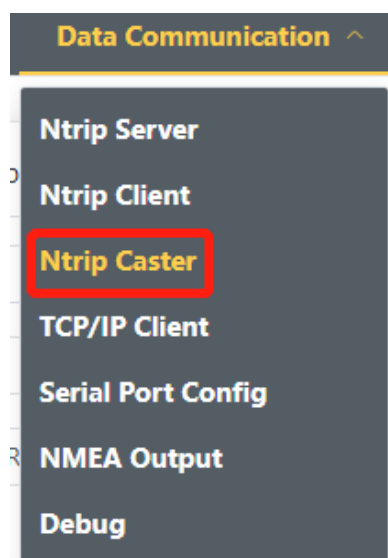

Figure 3-2-3-1
2. Select the **NTRIP Caster** in Data Communication field as shown in Figure 3-2-3-1.
3. Set the port number and the mountpoint name as shown in Figure 3-2-3-2.